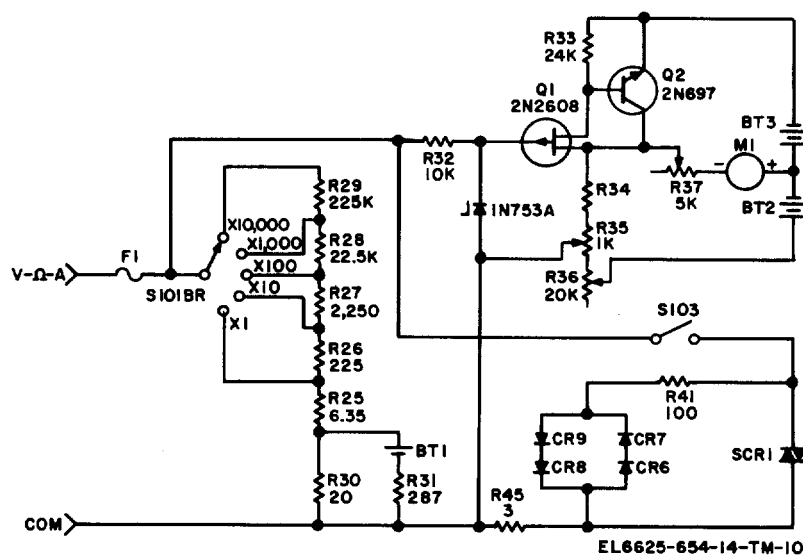

Figure 4-6. Simplified ohmmeter circuit.
a. Circuit Description. Figure 4-6 illustrates a simplified schematic diagram of the ohmmeter circuit. An open circuit potential of less than 120 millivolts for "safe" measurements in solid state circuitry is provided. This is obtained by dividing down the 1.5-volt potential of battery BT1 with a voltage divider made up of resistors R30 and R31. The operating potential of 120 millivolts is developed across R30. The positive end of the battery is connected to the COM terminal. The negative end of R30 (negative ohmmeter supply